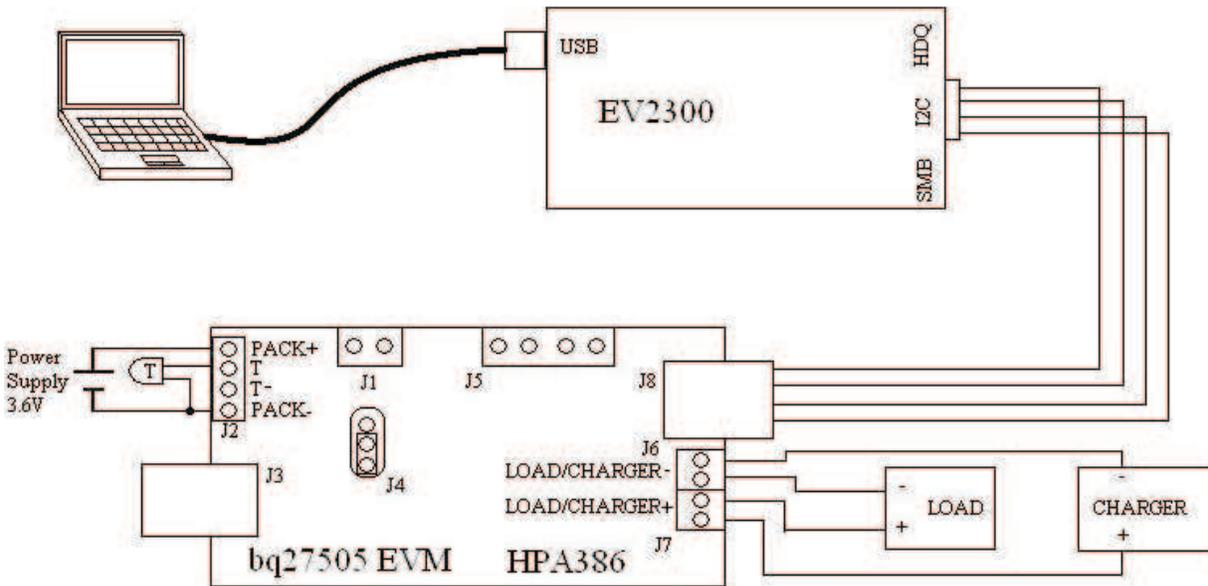

Figure 2. Basic bq27505EVM Configuration
Refer to Figure 2 when performing the EVM setup:
2. Ensure that jumper in **J4** of board is connected at the bottom position as shown Figure 2.
Beginning at the Windows Start menu, start the bq27505 evaluation software by selecting the application from the cascading menus: **Start** → **Programs** → **Texas Instruments** → **bq Evaluation Software**. To become familiar with the bq27505 evaluation module (EVM) you can simulate a battery cell with resistors and a power supply. You can vary the voltage across these resistors to simulate different states of charge. This configuration is shown in Figure 2 and described in the *bq27505EVM System Side Single-Cell Impedance Track™ Technology Evaluation Module* application note (SLUU356).
- Do you have the EV2300 USB cable connected (Figure 6) as shown in the Figure 2?
- Are the I2C lines connected to the EVM (Figure 2)?